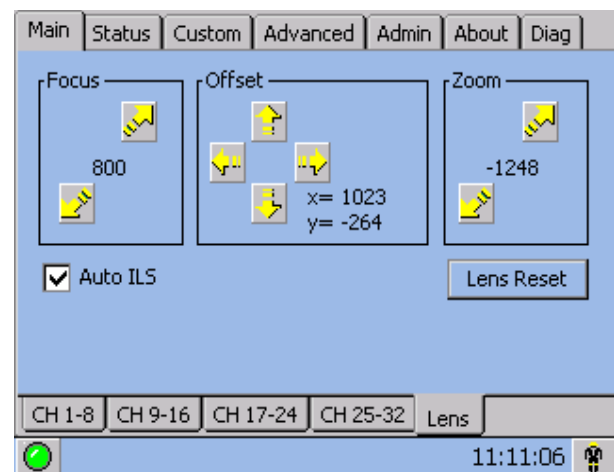

Figure 2-37 Intelligent Lens System
2. Using an framing test pattern (Framing.tga is recommended), adjust the **Offset** by clicking the up/down/left/right buttons on the **Main: Lens** menu (**Figure 2-37**) as necessary to display a square image on the screen. **NOTES: 1)** You can also hold the buttons down for continuous movement. **2)** For best optical performance, make sure to minimize keystone error by using offset more than aiming to center the image in off axis installations. **3)** For best results, avoid extreme tilts or offsets. Corner vignettes on a white test pattern indicates extreme offset that should be avoided using mechanical alignment.